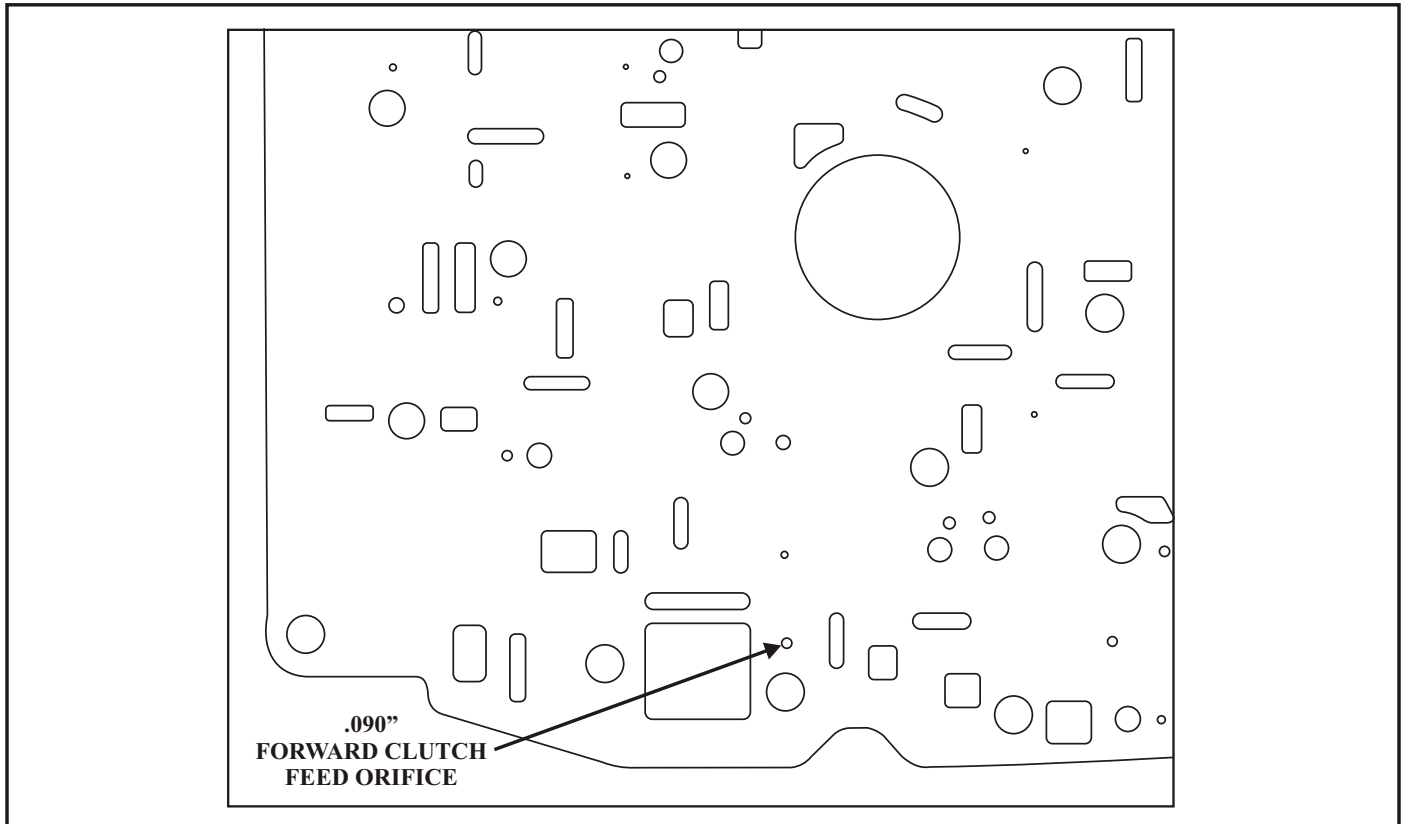

Figure 2
**NOTE #2:** The fluid going through the feed tube to the forward clutch must first pass through a .090” orifice in the spacer plate, (Refer to Figure 2). Line pressure feeding this orifice comes from the manual valve. The line pressure service port is located in the circuit before the manual valve. The feed pressure on the service port side of the orifice via the manual valve is not affected by the pressure drop on the feed tube side of the orifice. This is why a line pressure check does not reveal the loss of forward clutch pressure due to the cracked feed tube.